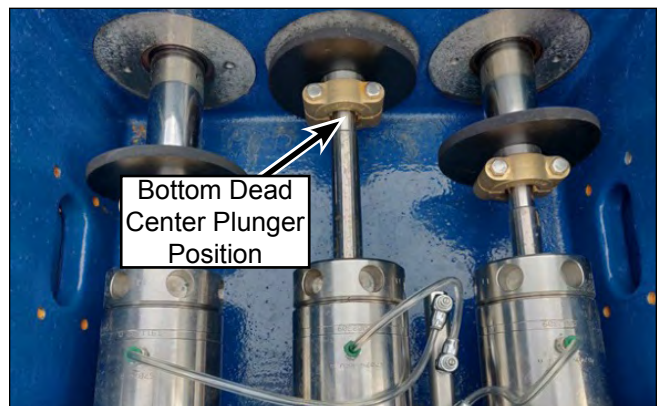

Figure 49: Position the plunger.
4. Position the plunger to be serviced so that it is at bottom dead center (pony rod is fully retracted towards crankshaft) (Figure 49). This can be achieved by one of the following methods: